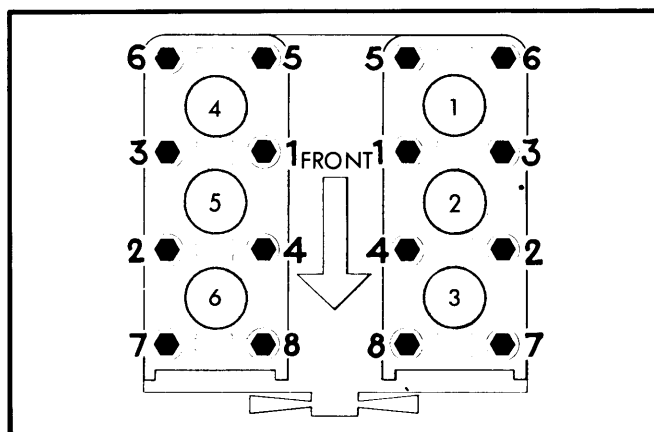

Fig. 1 Sequence for Removing and Installing Cylinder Head Bolts
7) Rotate each camshaft until large hole in sprocket aligns with rocker arm shaft. Remove rocker arm and shaft assembly by removing bolts in sequence shown in Fig. 1. Loosen bolt and push camshaft lock fork to one side.
2) Position rocker arm and shaft assembly and install cylinder head bolts. Tighten all bolts in sequence shown in Fig. 1 in three stages:
① — After 10-15 minutes retorque with protractor (5098).
3) Torque camshaft center bolt and remove sprocket retainer (5104). Center lock fork over camshaft and tighten. Back off all cylinder head bolts in sequence, Fig. 1. Tighten to 11-14 ft. lbs. Using protractor (5098) on standard socket, torque head bolts as follows: